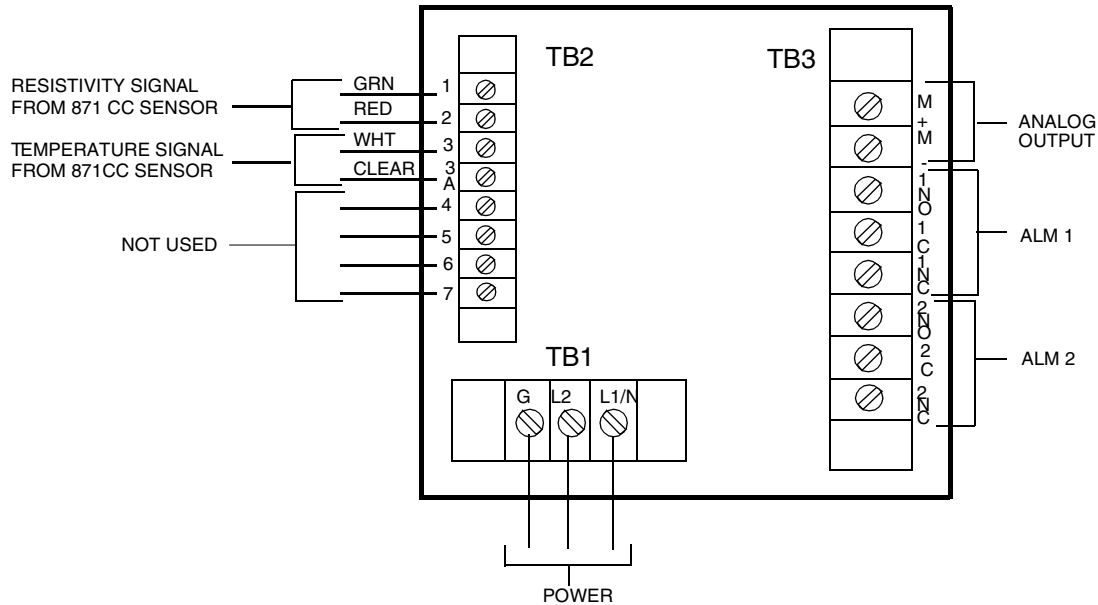

Figure 1. Rear Panel Wiring - Plastic Version
2. Connect ALM 1 and ALM 2 alarm wires to terminal block TB3 as shown in Figure 1. Failsafe operation requires connections to be made between contacts NC and C. For details see “Wiring of Alarms” on page 21.
3. Connect wires from external circuit to analog output terminals TB3 (M+) and TB3 (M–). Refer to Figure 1.
5. Connect sensor wires to analyzer terminal block TB2 as shown in Figure 1.
6. Connect power wires to terminal block TB1 as shown in Figure 1.